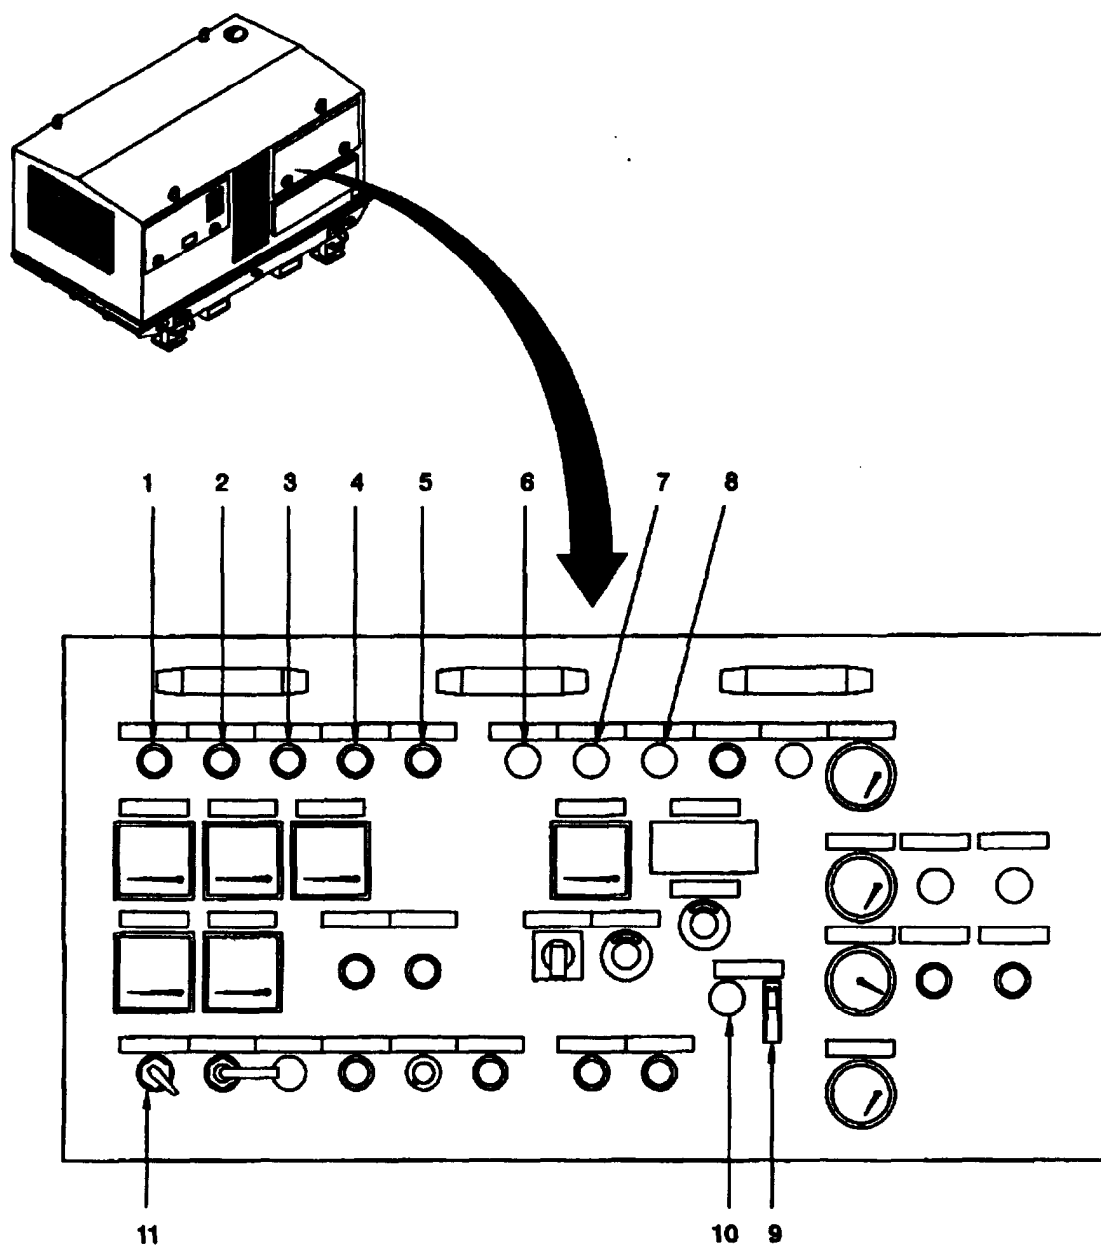

Figure 2-20 BATTLE SHORT Mode.
- a. Remove key from MASTER SWITCH (11, figure 2-20).
If the BATTLE SHORT switch (9, figure 2-20) is turned on during operation (BATTLE SHORT lamp (10) lights up), the Generator Set 150 kW will not shut down if the following faults are indicated:
- BATTERY CHARGING CONTROL (6),
- OIL PRESSURE (7),
- OIL TEMP-CYLINDER HEAD (8),
- UNDER/OVER VOLTAGE (2),
- GENERATOR OVER TEMPERATURE (3).